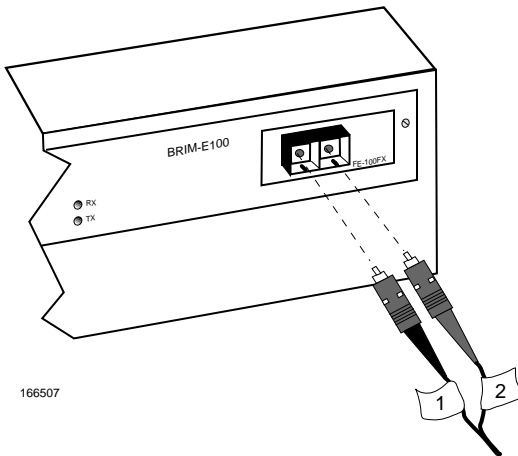

Figure 4-3 Connecting Individual Leads to the FE-100FX
2. Attach the fiber labeled 1 to the receive port on the FE-100FX. See Figure 4-3.